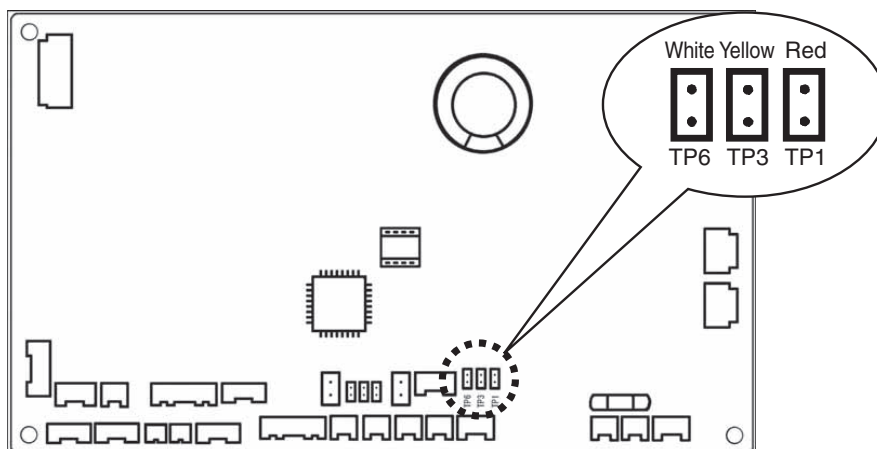

Fig. 5
- ① Open the electrical component box cover, then check the indoor unit control PCB. (Fig. 5)
- ② Connect the jumper connector (2P: yellow) which was supplied with the accessory to the correct connector pin on the indoor unit control PCB according to the setting number which was confirmed in Table 2 (Table of DC Fan Motor Tap Settings).
- If the setting No. is (1), then connect the jumper connector to the connector pin TP1 (2P: red) on the indoor unit control PCB.
- If the setting No. is (3), then connect the jumper connector to the connector pin TP3 (2P: yellow) on the indoor unit control PCB.
- ② Connect the jumper connector (2P: yellow) which was supplied with the accessory to the correct connector pin on the indoor unit control PCB according to the setting number which was confirmed in Table 3 (Table of DC Fan Motor Tap Settings).